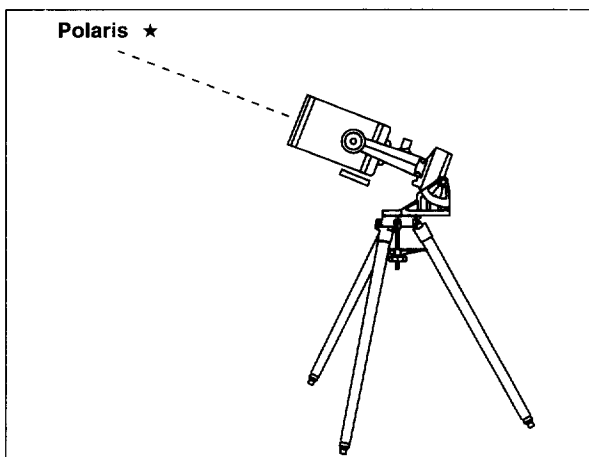

Fig. 18: Telescope aligned too low
- a. If the star drifts South (or down), the telescope’s polar axis is pointing too low (Fig. 18).